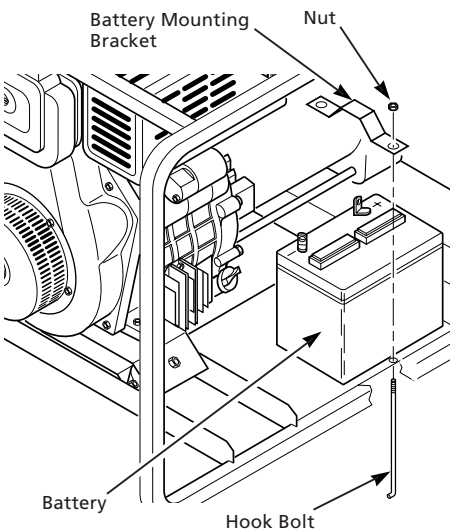

Figure 12 – Battery Hold-Down System
1. Secure battery to generator by battery hold-down system. This system consists of the battery mounting bracket, hook bolt, and nut (See Figure 12).